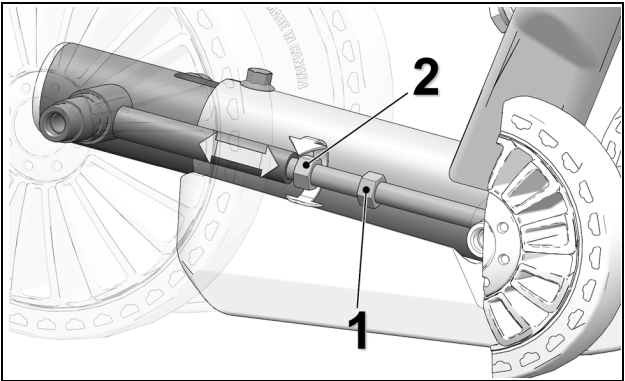

Figure 22
- Loosen jam nut (1) and turn adjusting nut (2) to set track tension. See Figure 22.